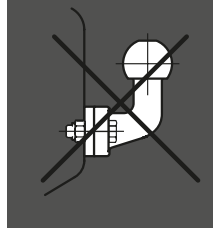

Figure 3 - A 50-1 coupling
1. In accordance with EC Directive 94/20, couplings of type A 50-1 cannot be used (see Fig 3), your warranty will be invalid if this type of towball is used.